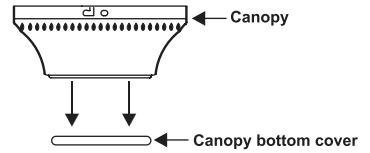

Fig.7
1. Remove the decorative canopy bottom cover from the canopy by depressing the three studs. (Fig.7)